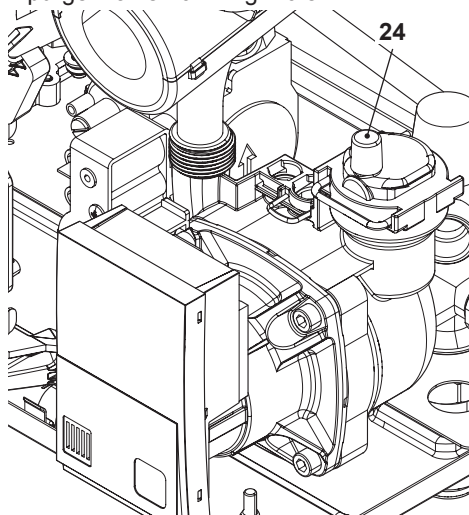

Fig. 10.7
- To make draining easier, lift the plug 24 of the automatic relief valve in Fig. 10.7.